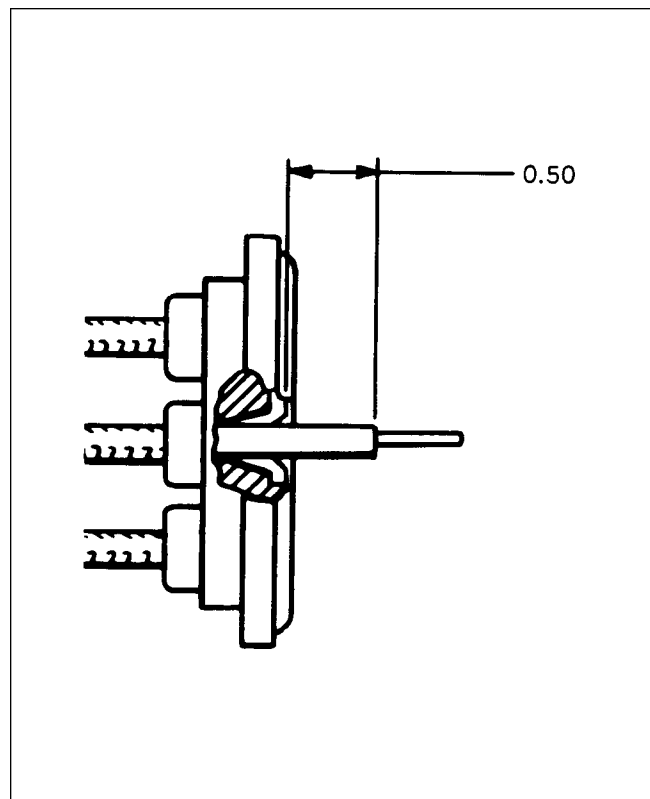

Figure 8-23. Measuring Wire From Top of Ferrule
13. Measure 1/2 inch from tapered ferrule and strip remaining insulation from wire. (Refer to Figure 8-23.)